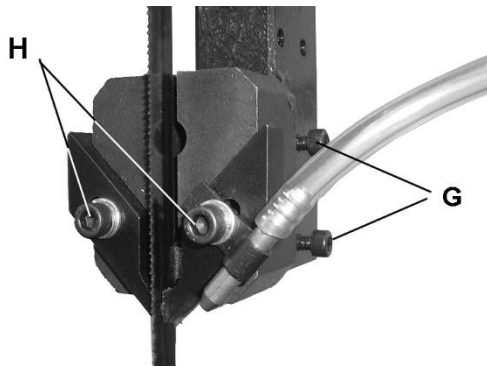

Figure 8
2. Loosen two set screws (G, Figure 8) and adjust guide so that blade guides are in back of saw teeth. Blade guides must be adjusted
3. Tighten the two screws (G, Figure 8).
5. Loosen two socket head cap screws (H, Figure 8) and adjust each finger toward the blade. They should not touch the blade. Adjust for 0.010" clearance on either side.
6. Retighten the two screws (H, Figure 8) once proper adjustment has been made. Be sure that adjustment for air nozzle has not changed and it directs the flow of air to the cut.